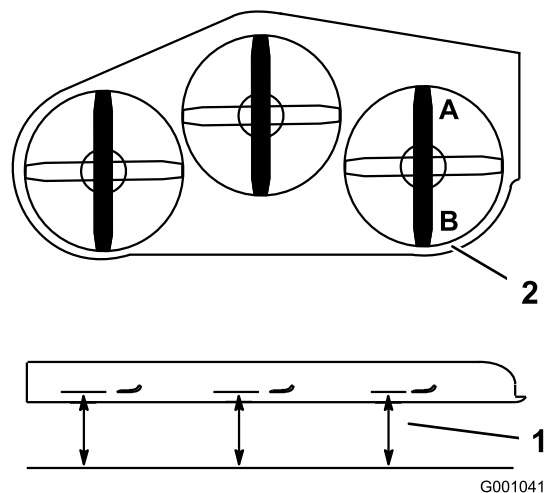
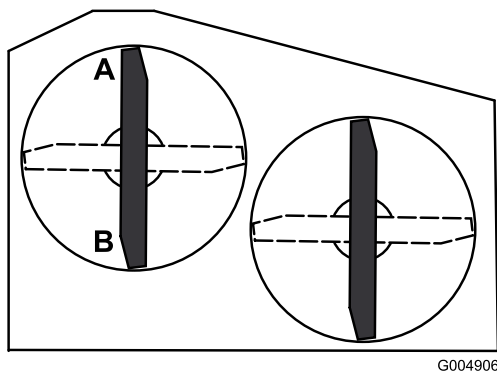

Figure 66
Figure 67
2. Position 1 blade front-to-rear. Measure at A and B locations from a level surface to the cutting edge of the blade tips (Figure 66 or Figure 67).
Note: For 36 inch mower decks use Figure 67.
5. Measure at C and D locations (Figure 66) from a level surface to the cutting edge of the blades.